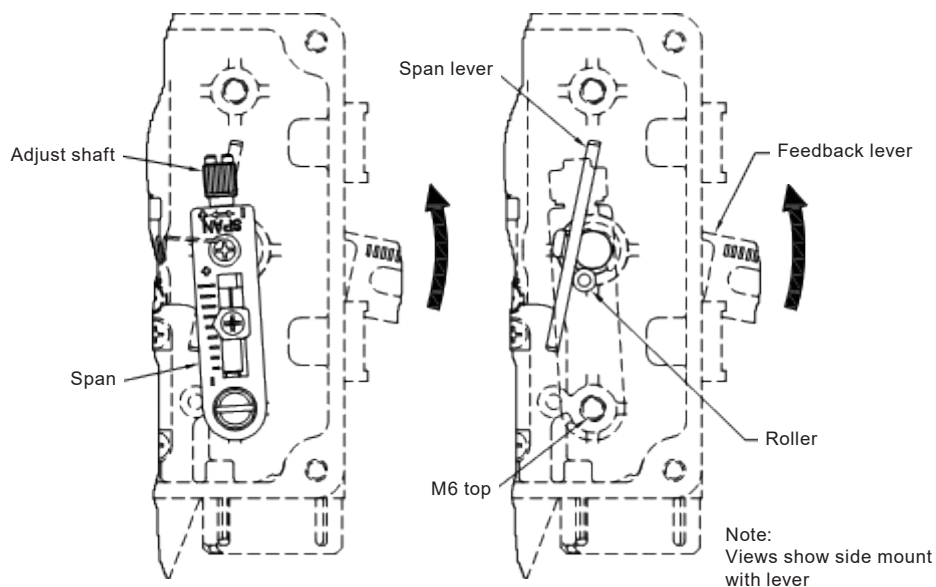

Fig. 17 Span Installation (side = RA, central = DA)
2. Side mount - If the actuator axis moves up when input signal is increased, assemble the "Span" to lower M6 Tap hole like the below Fig. 17.(RA)